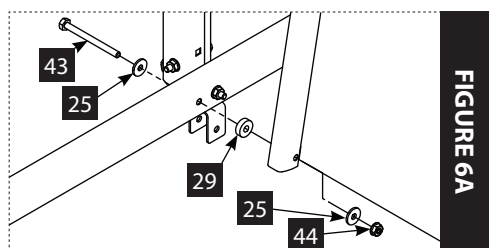

FIGURE 6A
9. With the TearTuff seat assembled, secure the back of the seat assembly (13) to each of the seat side supports (9), using a 1/4-20 x 3 IN (43) bolt, two yellow plastic washers (25), a plastic spacer (29) and one 1/4-20 nut (44). **SEE FIGURE 6 AND FIGURE 6A**